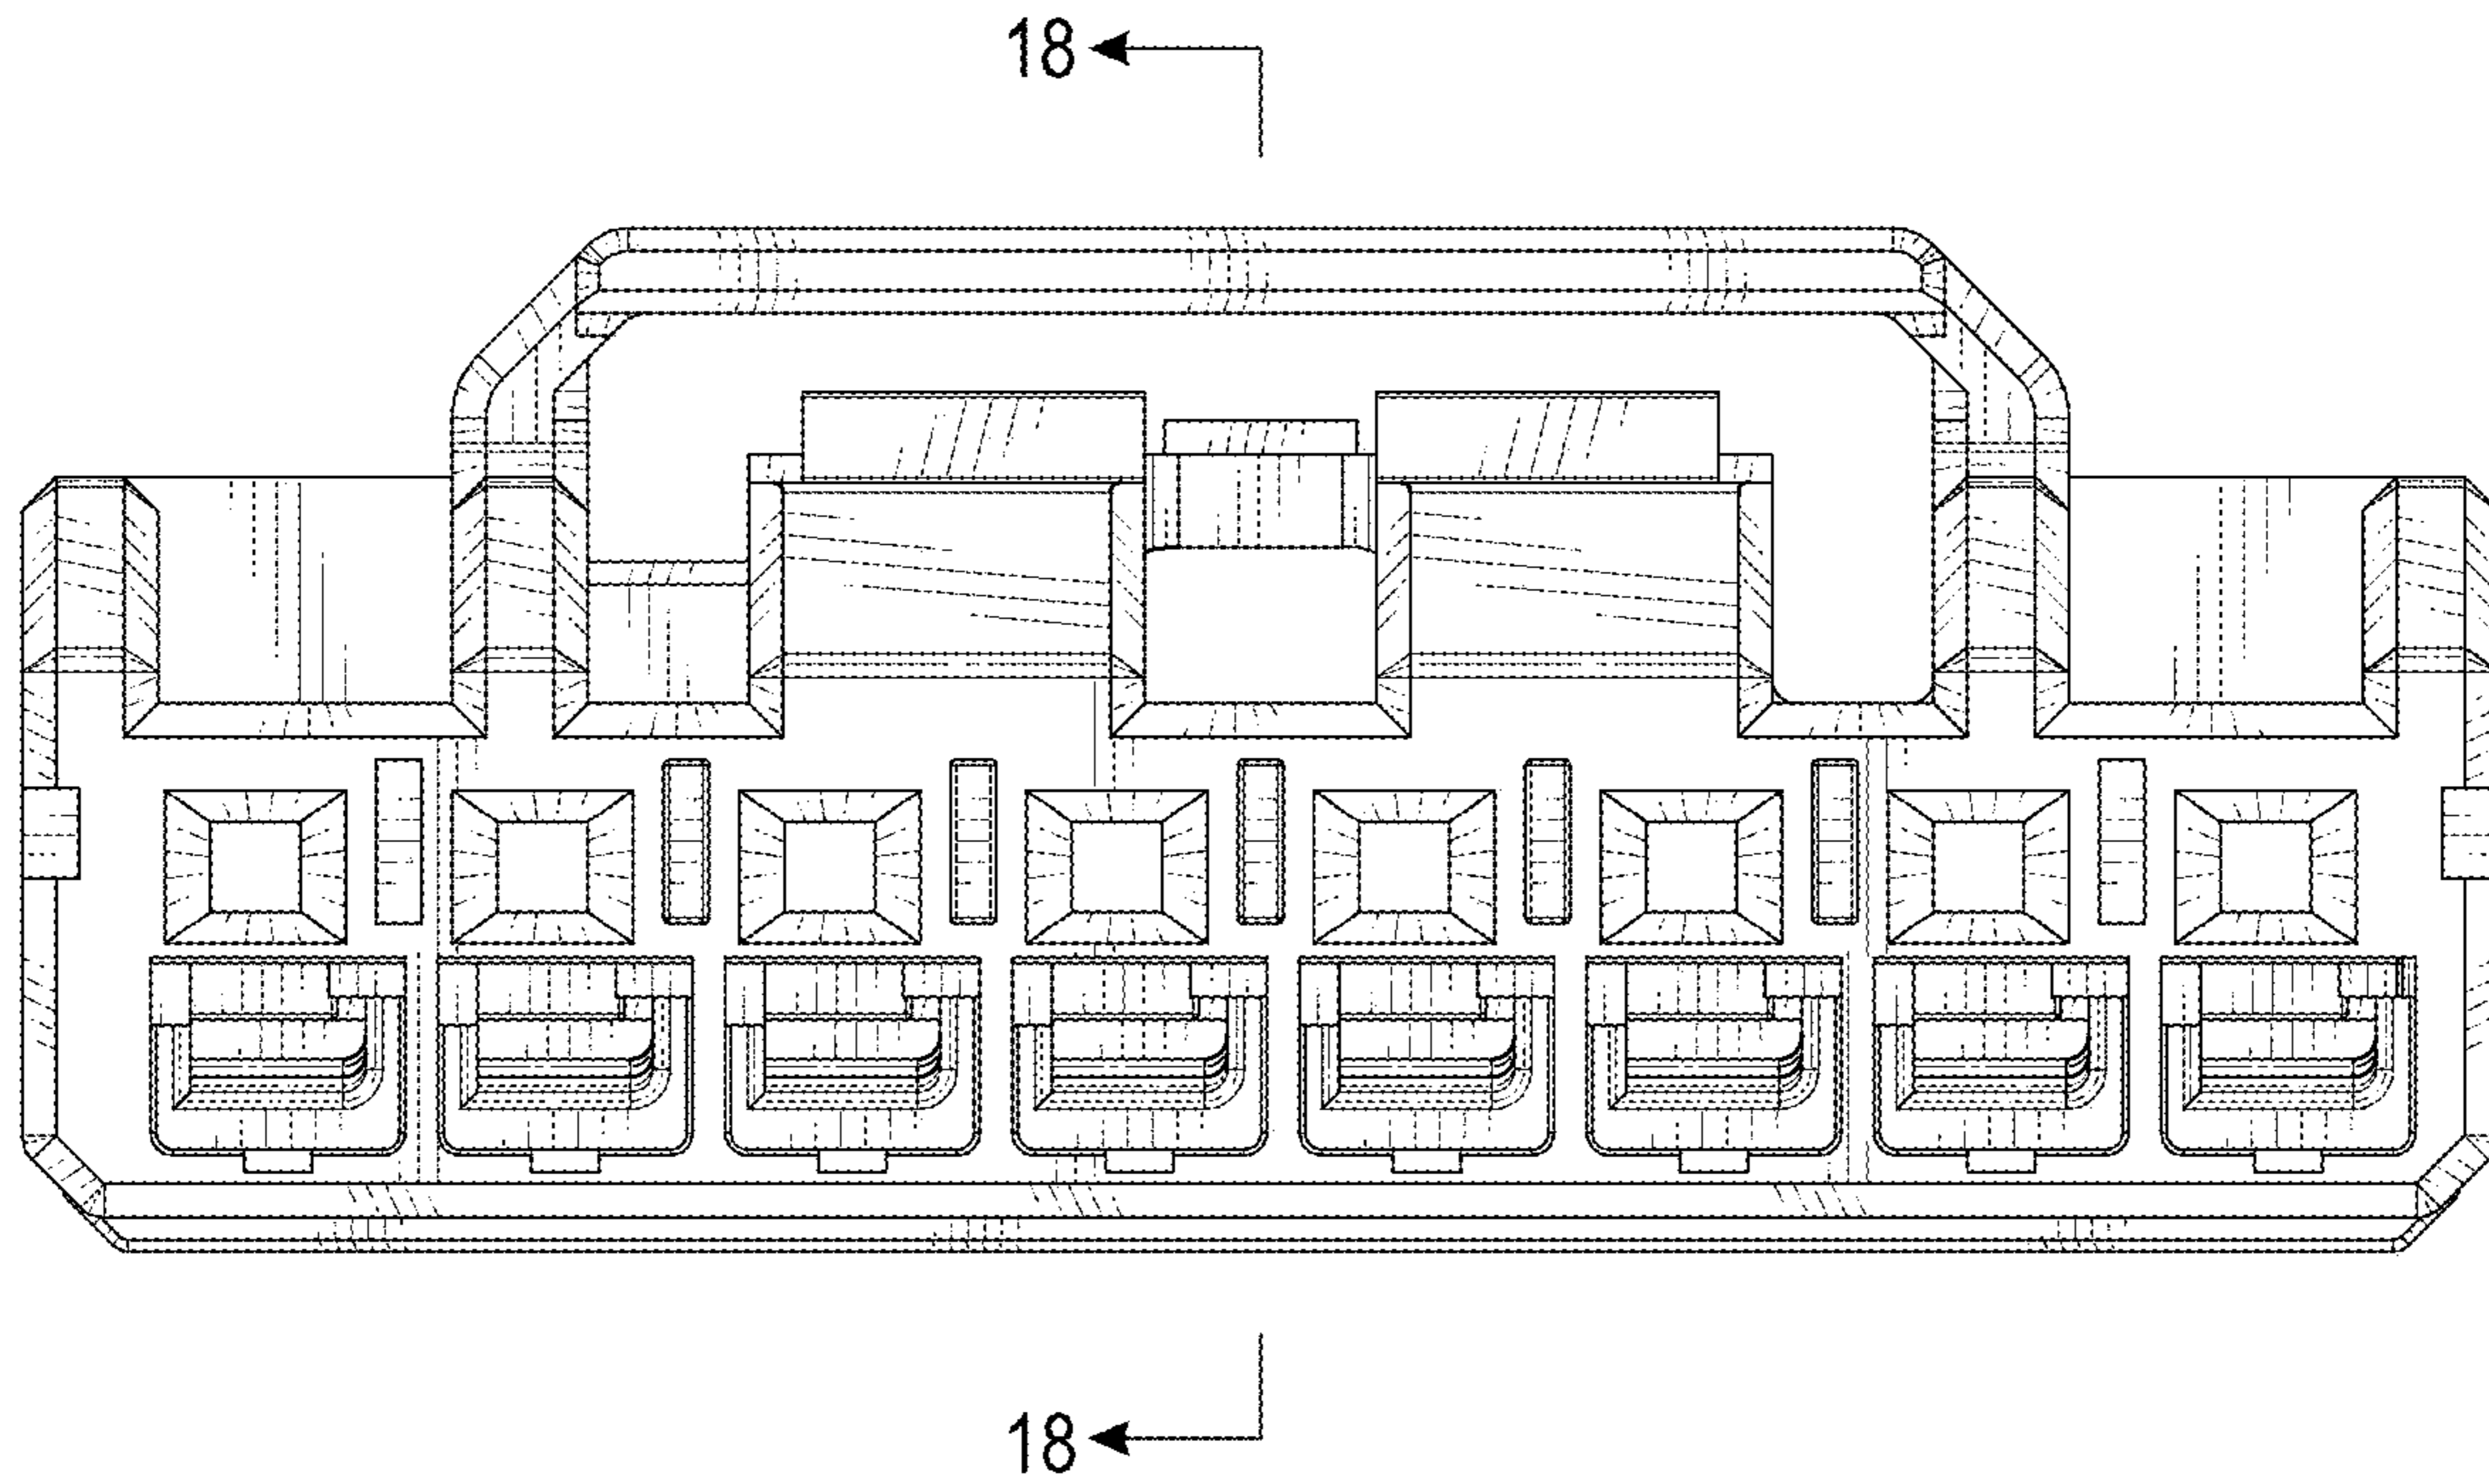

FIG. 12
FIG. 12 is a front elevational view of the second configuration of a connector showing our new design, wherein a hinge portion is in a closed state;
**18-18** in FIG. 12;